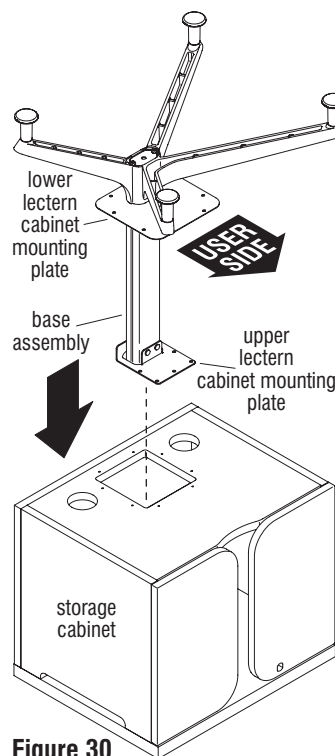

Figure 30
5. Carefully place the storage cabinet upside down on a soft, protective surface. Position the base assembly over the storage cabinet as illustrated with the longer legs facing the cabinet doors side. Then, insert the upper lectern cabinet mounting plate through the opening in the underside of the storage cabinet and allow the lower lectern cabinet mounting plate to rest on underside of the storage cabinet (Figure 30 & Detail O2).